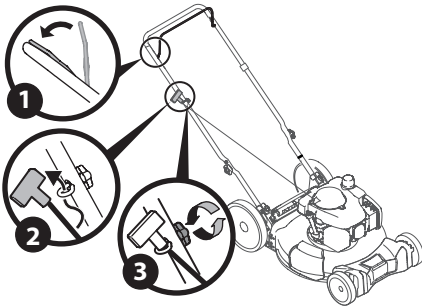

Figure 10
**NOTE:** The rope guide is attached to the right side of the upper handle. Loosen the knob securing the rope guide (Figure 10).